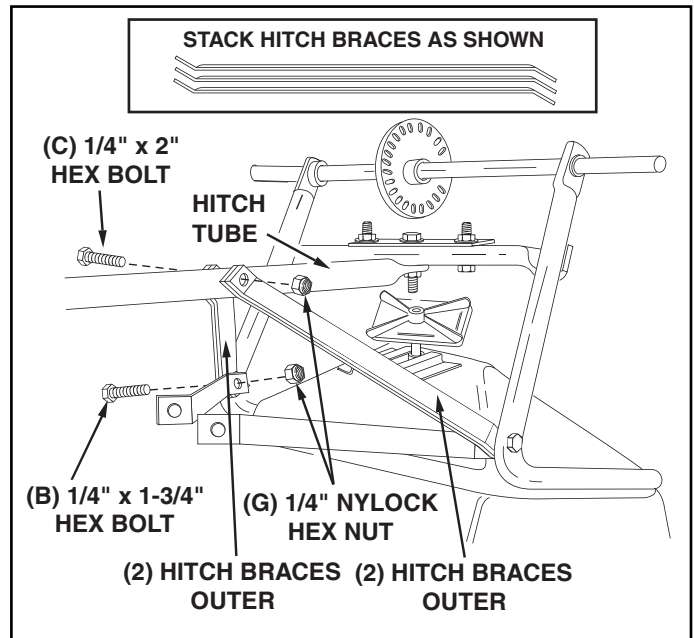

FIGURE 2
4. Stack the hitch braces into two sets of three, making sure the raised sides of the braces are facing the same direction. See figure 2.
5. Assemble the six hitch braces (three per side) to the inside of the hopper frame using a 1/4" x 1-3/4" hex bolt (B) and 1/4" nylock hex nut (G) on each side. **DO NOT TIGHTEN YET.** The hitch braces should be able to move freely. See figure 2.
6. Assemble the four **outer** hitch braces to the hitch tube using a 1/4" x 2" hex bolt (C) and a 1/4" nylock hex nut (G). **DO NOT TIGHTEN YET.** Do not assemble the two inner hitch braces at this time. See figure 2.